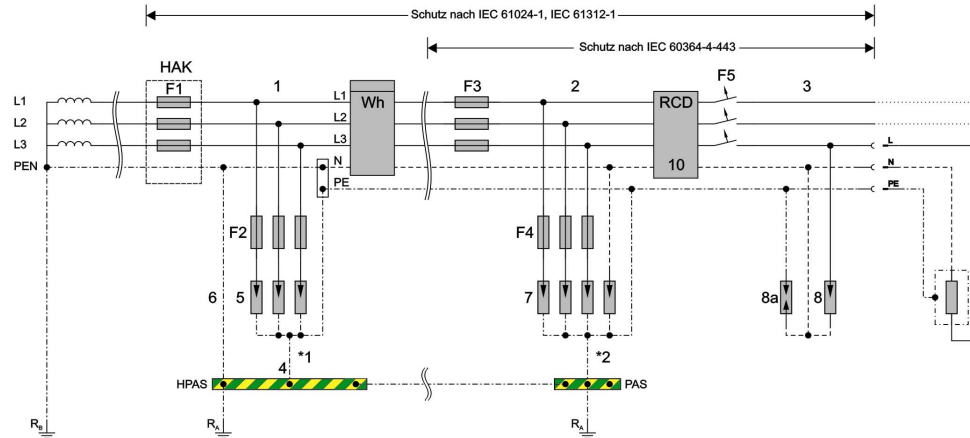

Fig. 1 Overvoltage protective equipment in TN network
The PU-C overvoltage protection must be connected with short lines between the (outer) supply conductor (L1, L2, L3) and the neutral conductor (N) and the earth (PE) of the consumer's installation. The parallel routing of non-protected lines and protected lines must be avoided. For connection examples, see figures 1 and 2.
The arrester's earth conductor must be connected by the shortest possible route ($\leq 0,5\text{m}$) to the earth terminal of the consumer's installation. Longer connection lines reduce the efficiency of the overvoltage protector. Parallel routing with other electrical lines must be avoided. The earthed equipotential bonding strip is available for connection with the equipotential bonding of electrical consumer's installations (see figures 1 and 2).